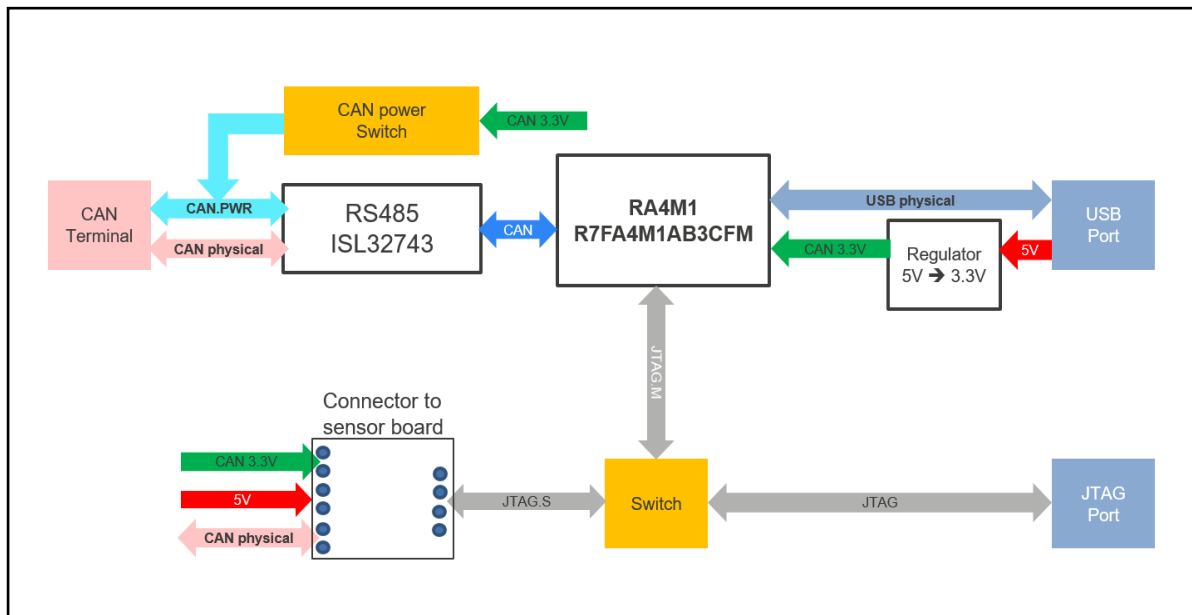

Figure 1-3 RA4M1 Monitor EVB Block Diagram
C. Figure 1-3 is the block diagram of RA4M1 Monitor EVB.